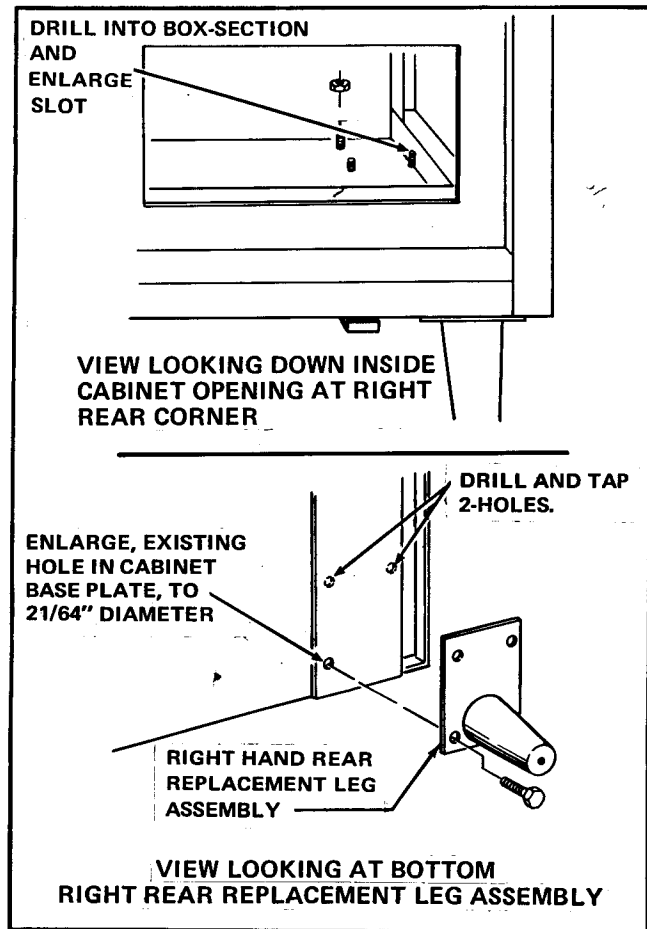

FIGURE III-4
1. Use a (21/64") .328" diameter drill bit to enlarge the hole already in the Cabinet Leg Base and to drill through the Cabinet Bottom Panel. This hole will be visible inside the Cabinet. See Figure III-4.
2. Place the replacement Leg and Leveler Assembly (part number 117-1098) on the Cabinet Base Plate. The replacement Leg Assembly Cone should be toward the rear of the Cabinet. There are four holes in the replacement Leg Assembly Base Plate. The Leg Assembly Cone is approximately centered between two of the holes and away from the other two holes. Only one of the two holes that the Leg Assembly Cone is between, can be aligned with the hole enlarged in step III-B1 when the replacement Leg Assembly Base is centered properly on the Cabinet Base Plate. See Figure III-4.
3. Attach the Leg and Leveler Assembly with the No.5/16-18 x 1-1/4" Hex. Head Bolt (part number 417-0024) and attach the Bolt with the No.5/16-18 Nut (part number 117-1022). See Figure III-4.